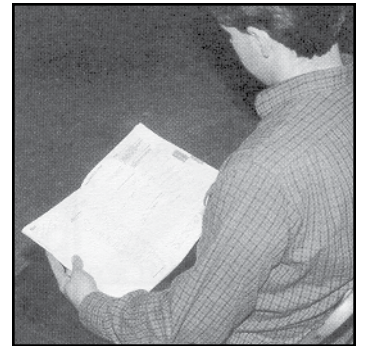
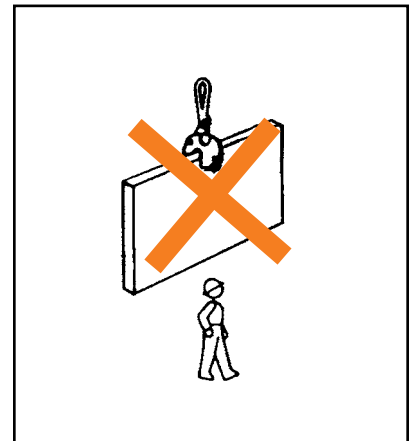

Figure 5
Figure 14
1. **DO** use the right clamp for the job. Before using Campbell clamps, carefully read the instructions and warnings in our product literature, and understand them thoroughly (Fig. 5). **MOST IMPORTANTLY** always stay clear of the load when lifting! The operator should never lift over people or machinery (Fig. 14). If you are not sure, contact a Campbell representative for proper use of our products.
16. **DO NOT** stand near the load when lifting. The operator should stand clear of the load and should never lift over people or machinery (Fig. 14).